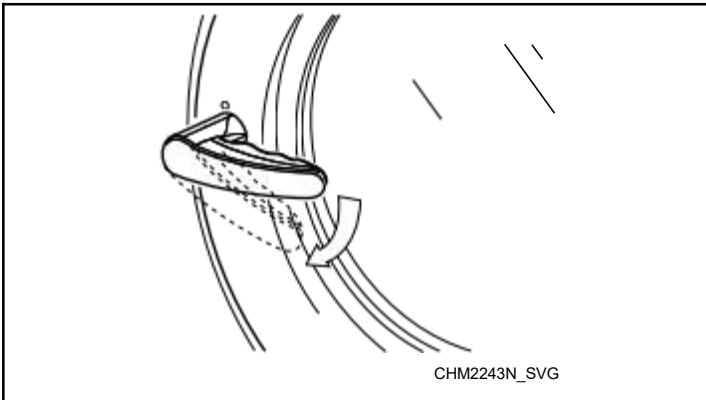

Figure 52
2. Turn handle clockwise to open. Refer to *Figure 52* .